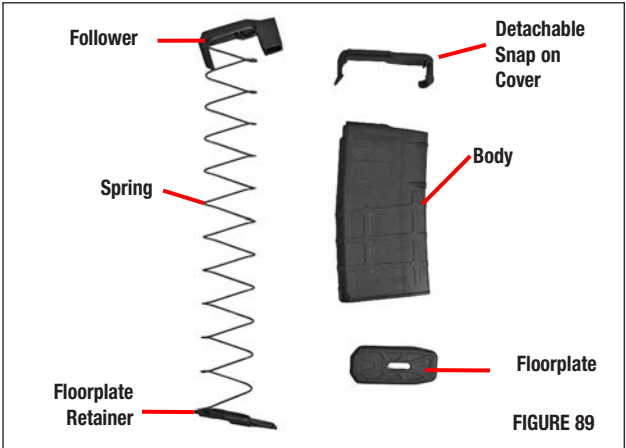

FIGURE 89
- FIGURE 89 shows the parts that make up the magazine.